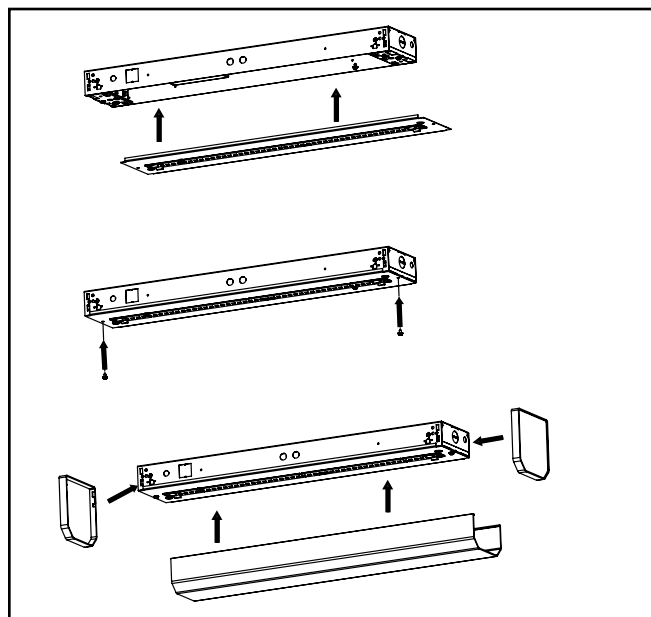

Figure 3.
5. Install channel cover with screws provided and re-install lens and endcap on fixture (Figure 3).